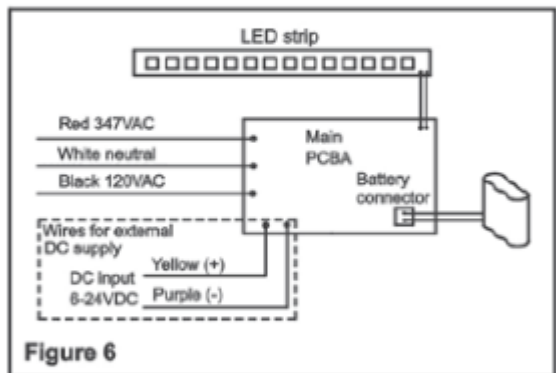

Figure 6
- e. Feed the AC supply leads out through the center hole and make the proper connections (See step 4 and Fig.6).
- c. Install canopy according to mounting configuration (see figure 6).
- d. Feed the unit wires through the canopy hole and make the proper connections (See step 4 and Fig.6).
4. Make the proper connections (see figure 6):
5. For universal AC/DC models: connect wires for external DC supply (see figure 6)